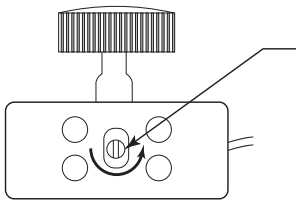

Figure 12.
3. If blower does not turn on, turn the fireplace off and allow to cool. Using a small jeweler's style screwdriver, turn the white dial on the side of the speed control 1/8 turn counterclockwise. Figure 12. This will allow the blower to start at a lower speed setting as the fireplace cycles on and off. Retest blower.